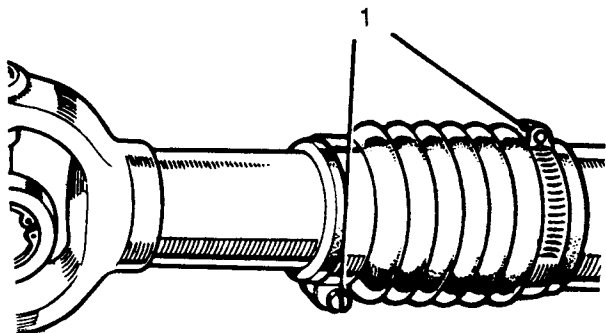

Fig H4.5
- (2) **Front propeller shaft:** Refer to Fig H4.5. Release the two hose clips (1) and slide the rubber boot along the propeller shaft.